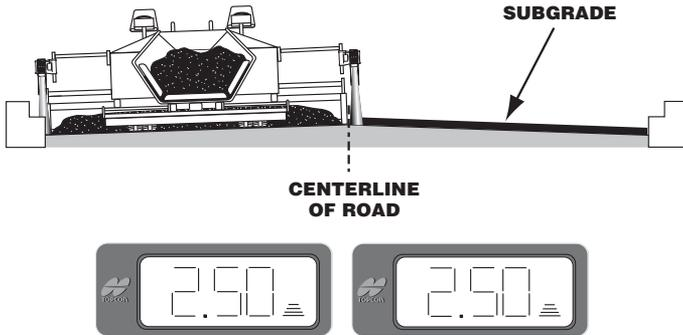

Figure 7-4. Paving Other Side of Road
5. To pave the other side of the road, position the left tracker over the lip of the gutter and place the right tracker over the new mat (Figure 7-4).